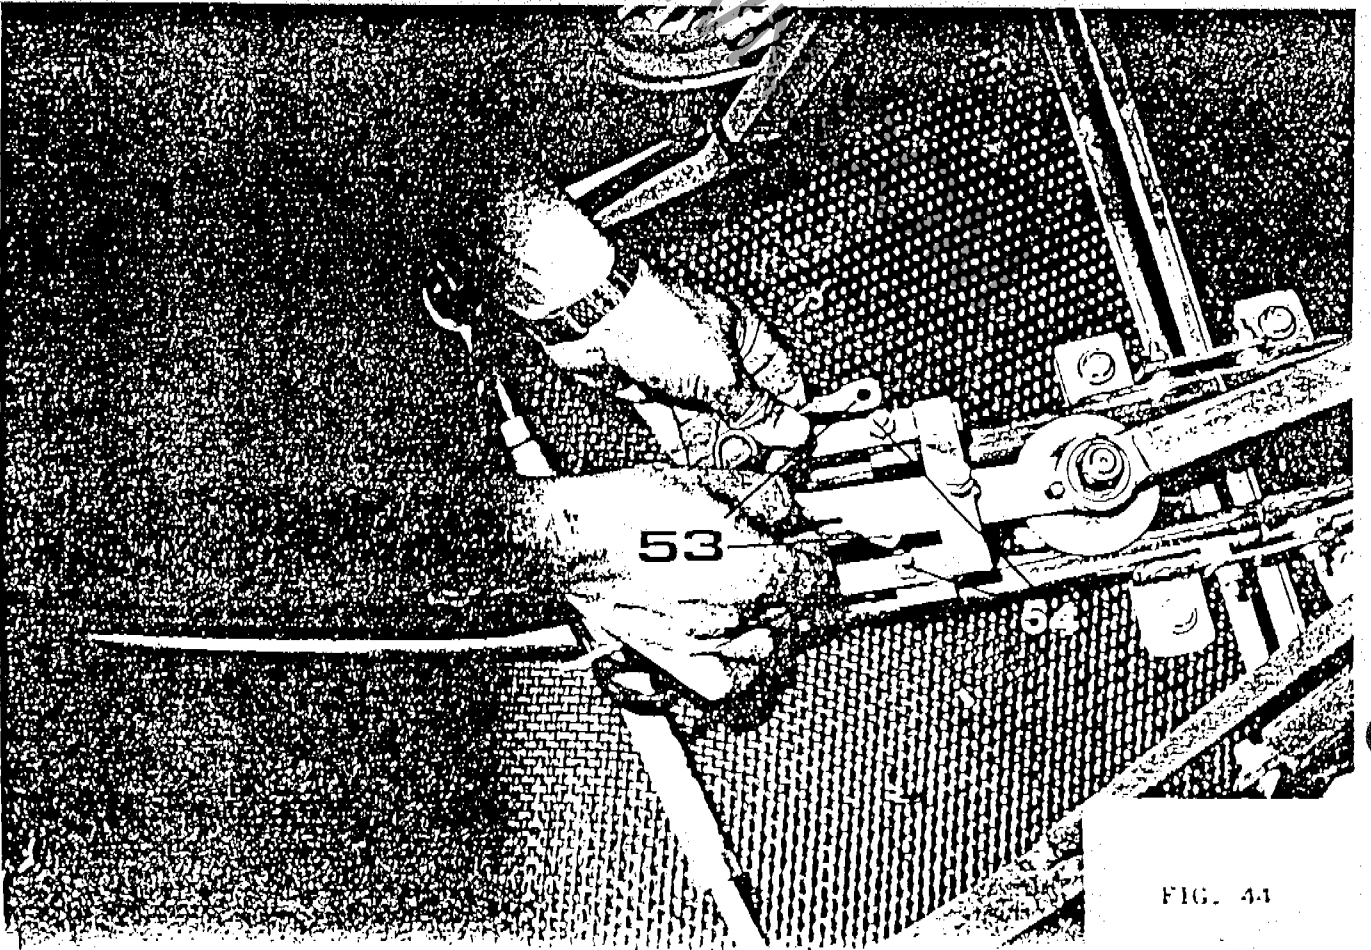

FIG. 44
COMPLETE THE INSTALLING OPERATION CONNECTING THE FEEDING WIRES (53) (Fig.44) TO THEIR STUDS (54) (Fig. 44) AND FIXING THEM WITH THE SUPPLIED WINGNUTS. (55) (Fig. 45).